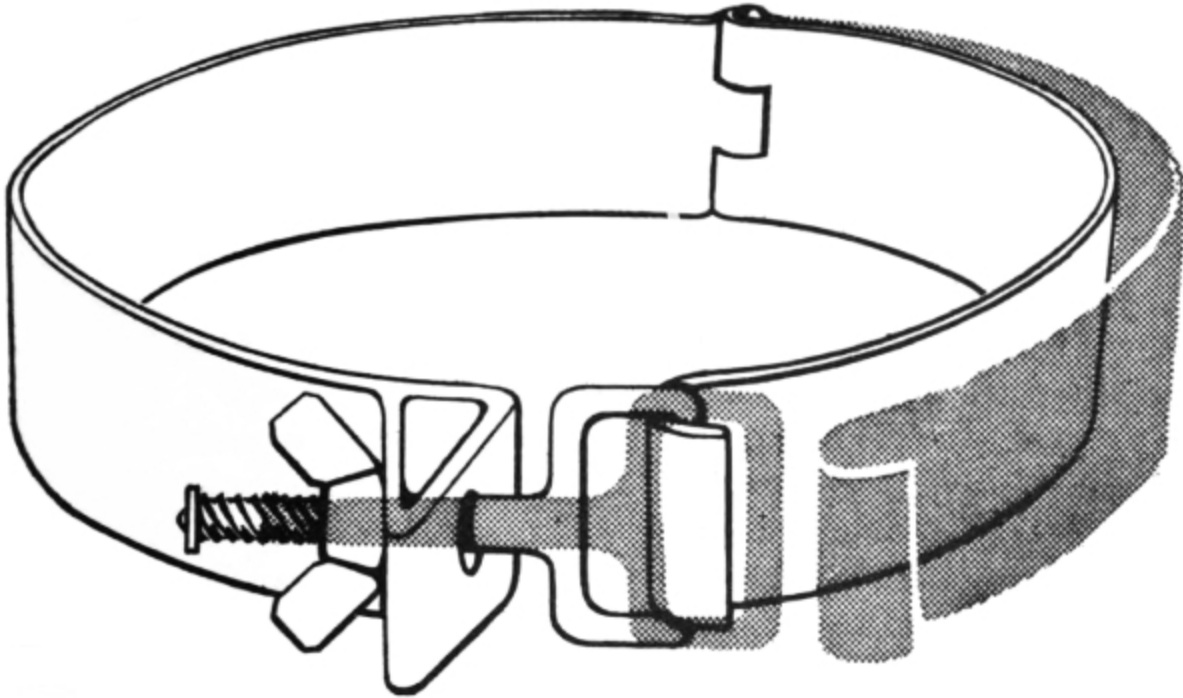

FIGURE 35.1. (Added.) Adjustable pressure tank clamp, showing use of nut and screw tightening device.
(1) *Pressure tank.* The pressure tank * * * the fuel tanks. **The pressure-tank clamp may be adjusted to different outside diameters of pressure tanks by means of a nut and screw tightening device (fig. 35.1) or by means of a stepped ring at end of clamp.**